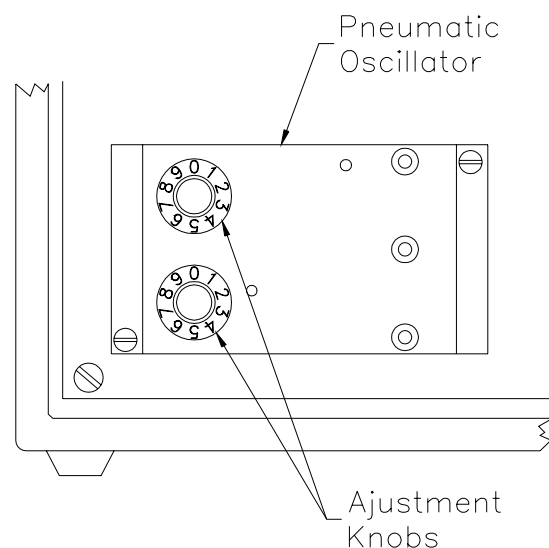

Figure 8: Purge Cycle Adjustment Knobs
- In "Purge Mode", the individual cycle times of the air and solvent valves can be varied by adjusting the two knobs on the pneumatic oscillator in the lower left-hand corner of the Interface Box (see Figure 8).